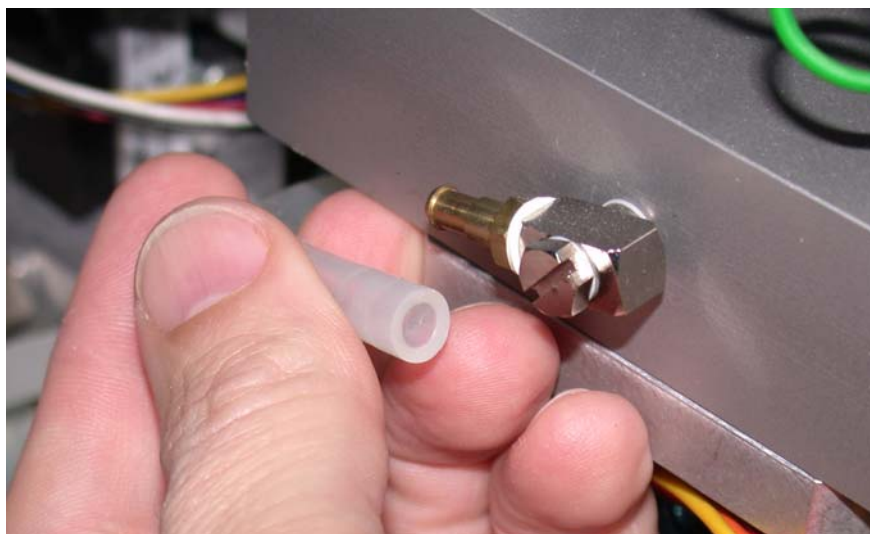

Figure 10-14. The tubing disconnected from the mixer block
2. Disconnect the tubing from the *mixer* block. (Figure 10-14.)